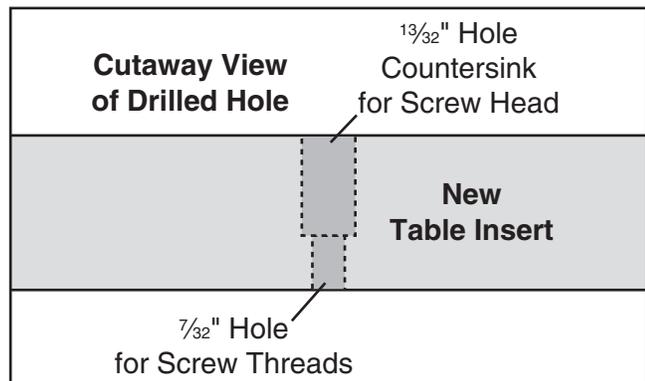

Figure 87. Countersinking mounting holes.
- Countersink the holes you drilled in **Step 7** (see **Figure 87**), so the heads of the mounting screws can be recessed into the table insert when installed.